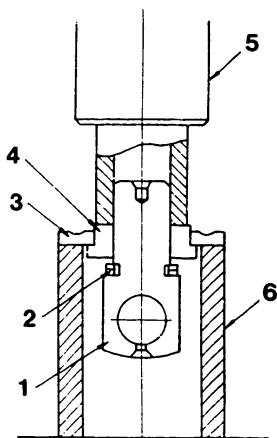

Fig. 111 Removing the outer ring
- 4) Use a press to remove the outer ring of the bearing as shown in Fig. 111.